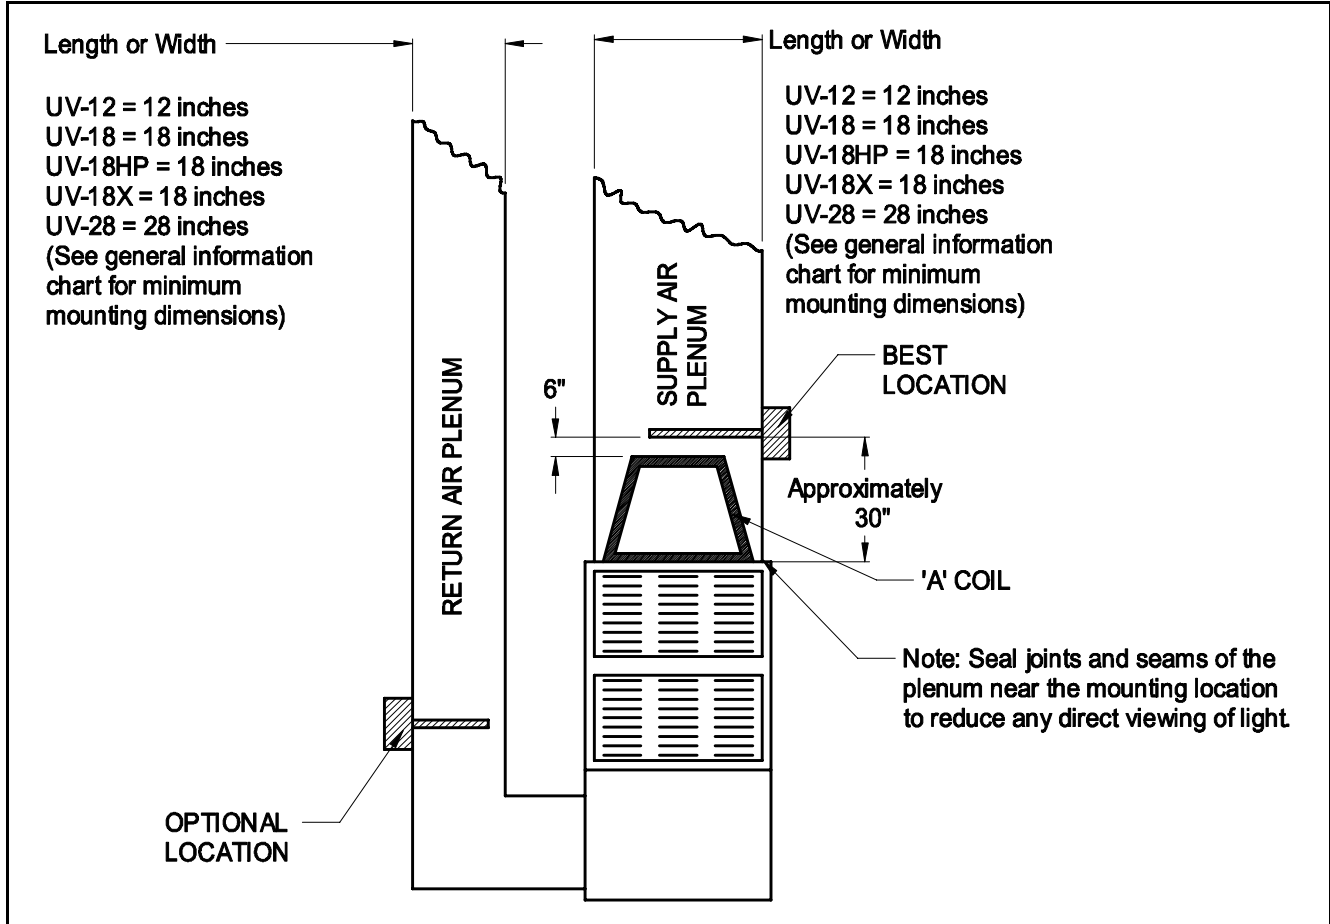

Figure 1
1. Locate a suitable location for the unit downstream from the 'A' coil in the supply plenum or in the return plenum; preferably downstream from the air filter. For optimum "cleaning" effect on the 'A' coil, mount the unit in the supply plenum as close as possible to the 'A' coil. (See Figure 1)
NOTE: Seal the joints and seams of the plenum near the mounting location to reduce any direct viewing of light. (See Figure 1)